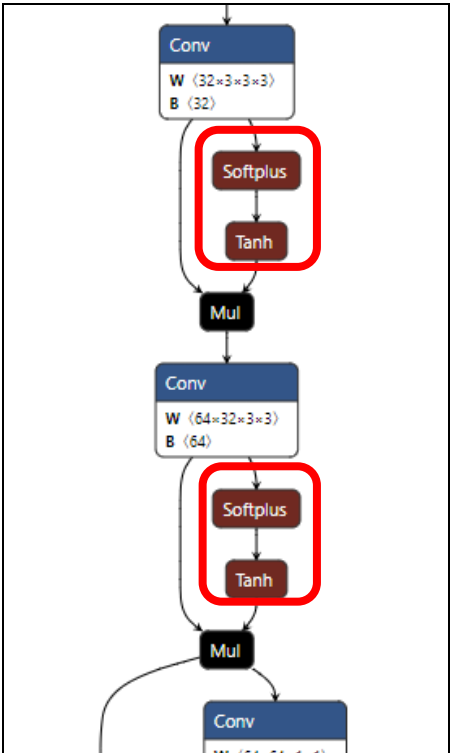

Figure3.5 Nodes that are not subject to quantization in pattern (2) (Surrounded by Red Round-Cornered Rectangles)
In this example, the following three activation functions are not quantized. However, since "^" is added to the Mul operator included in the patterns (2) and (3), it is subject to quantization (See Figure3.5, Figure3.6.)
(1) Mish
(2) Softplus → Thanh → Mul
(3) Exp → Add → Log → Tanh → Mul